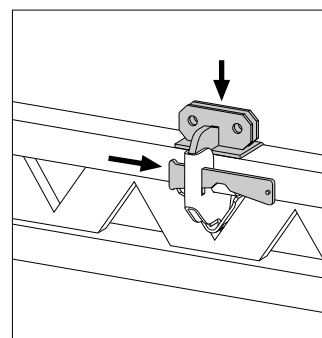

Fig. B2.05.2
2. Push clamps from the inside over the girder chord. (Fig. B2.05.2)
3. Secure wedge. (Fig. B2.05.2)